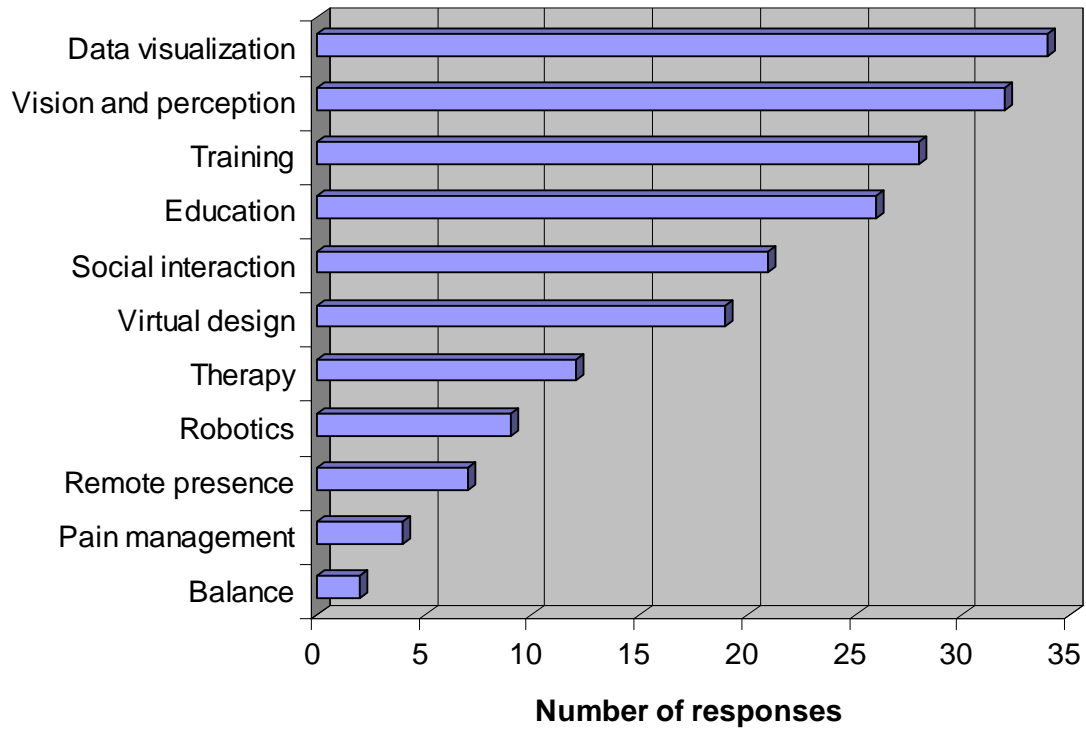

Figure 4 - Research Interests
- Applications such as data visualization (the most popular topic in Figure 4), greatly benefit from higher resolutions between greater amounts of data can be presented.